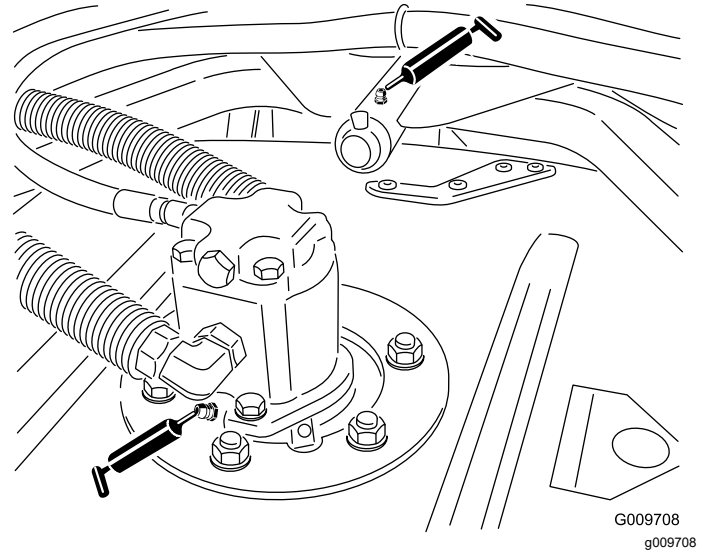

Figure 42
- Cutting-unit spindle-shaft bearings (2 per cutting unit) as shown in Figure 42
- Cutting-unit carrier-arm bushings (1 per cutting unit) as shown in Figure 42